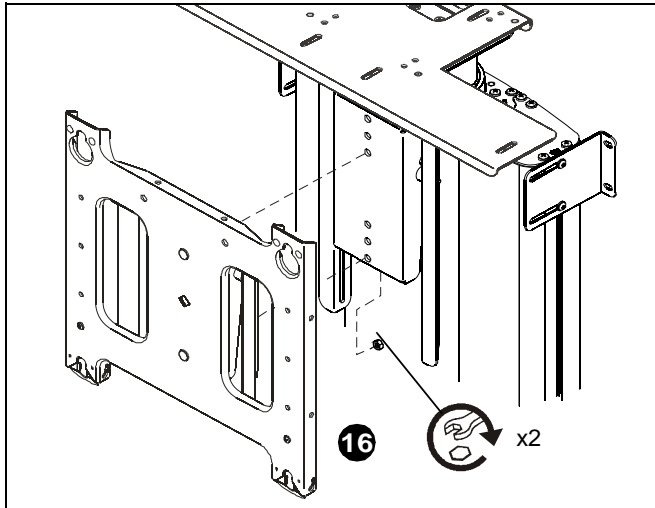

Figure 7
16. Secure faceplate to faceplate mounting bracket using two locknuts. (See figure 7)